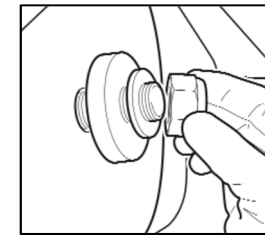

Fig. 3
7. Remove pivot bolts and alignment bosses from hanger brackets (Fig. 3).